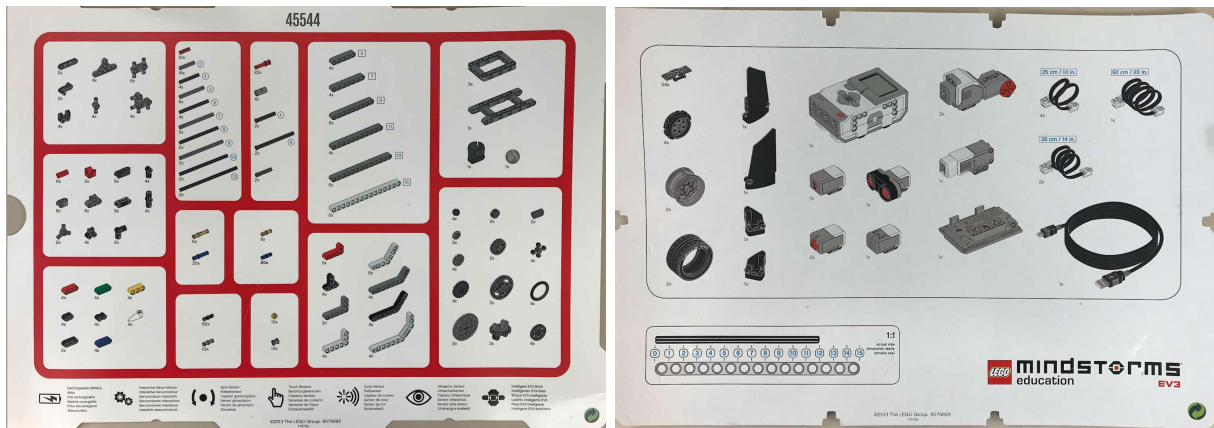

Figure 1: This picture shows descriptions of components in the boxes.
- **Boxes:** 1 LEGO Core set. Information about parts is here <https://education.lego.com/en-us/products/lego-mindstorms-education-ev3-core-set-/5003400> (If the link is dead search for LEGO Core Set). See Figures 1.
Question: Can you identify the different sensors and motors in Fig. 1 (bottom picture)?